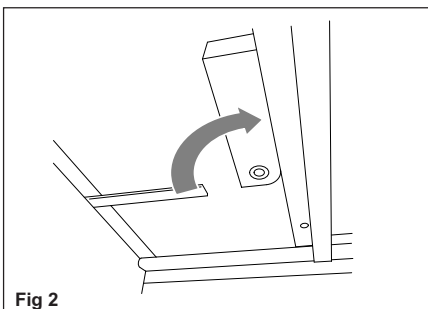

Fig 2
Please ensure you return the locking plate to its normal position (see fig 2) if you wish to remove the wrap round seating.
- With battery power supply this switch (Fig 2) allows to switch off the AT42.